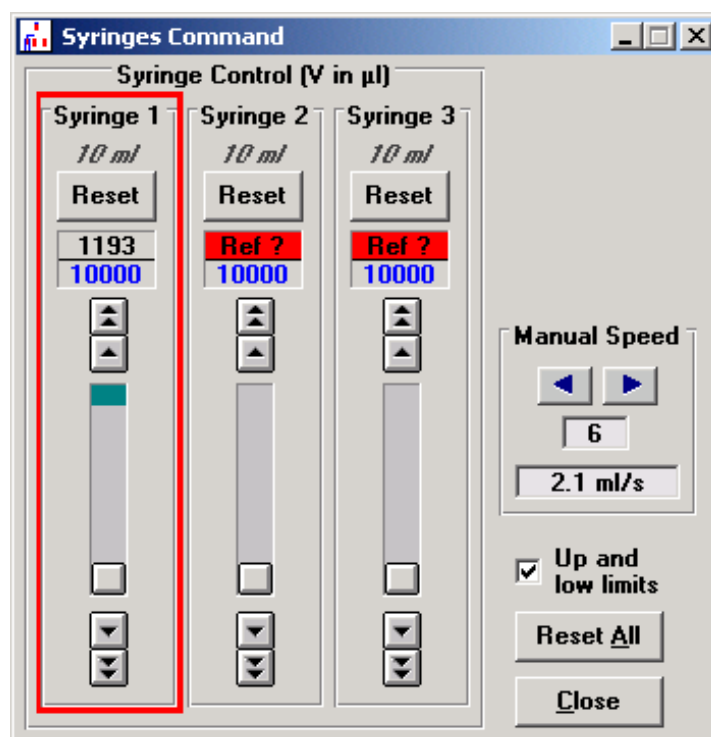

Figure 91 : syringe control window
The size of the elementary steps and syringe movement speed is controlled in the Manual Speed section of the window (Figure 91). The  and  buttons change the manual speed. The display shows the speed in flow rate based on the syringe installed and moved.
The MPS that controls the SFM follows the movements of the syringes so that the actual residual volumes are displayed at all times (see Figure 91). When the MPS is turned on and the software started, turned on, the syringe volume counters show **Ref ?** and must be initialized (Figure 91).
- 5/ Set all syringe valves handles to **(R)** and move all syringes to their lowermost positions. The syringe plungers should exit the SFM so that the plunger tips are completely visible. If this is done using Bio-Kine it will be necessary to uncheck the **Up and Low Limits** checkbox in the software **syringe control** window (Figure 91).